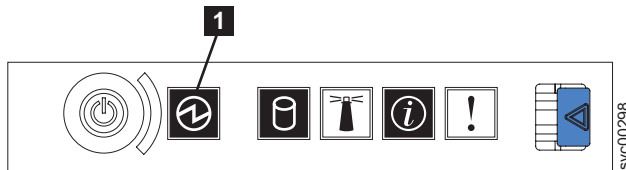
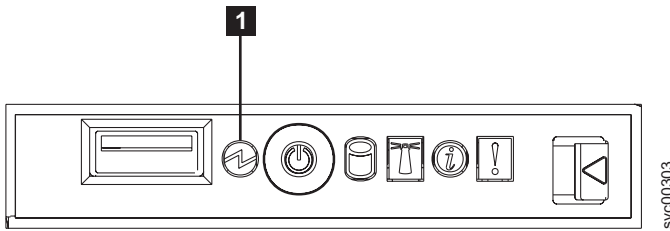
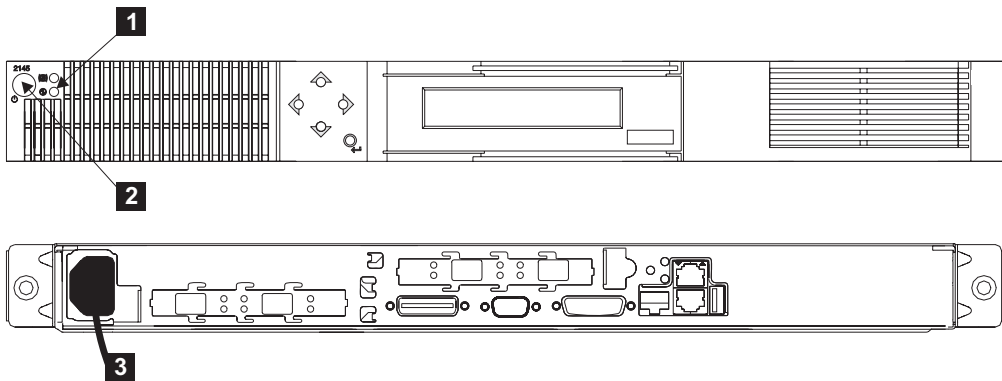

Figure 111. SAN Volume Controller 2145-8G4 operator information panel
Figure 112. SAN Volume Controller 2145-8F4 or SAN Volume Controller 2145-8F2 operator information panel
Figure 113. Front and back panel views of the SAN Volume Controller 2145-4F2
1. Check the SAN Volume Controller 2145-8G4 (1 in Figure 111), SAN Volume Controller 2145-8F4 (1 in Figure 112), SAN Volume Controller 2145-8F2 power LED (1 in Figure 112), or the SAN Volume Controller 2145-4F2 power light (1 in Figure 113).